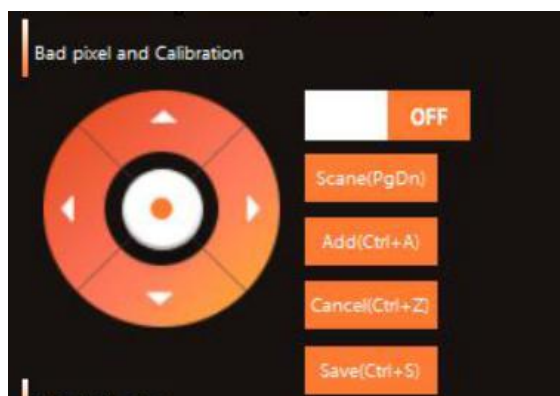

Figure 3.2.1 Blind pixel calibration interface
If new blind pixel appears on the product, we can remove the blind pixel through the function of blind pixel calibration. As is shown in Figure 3.2.1, the process is as following step:
Step2: As shown in Figure 3.2.1, in “blind pixel and calibration ”interface, click “up”、 “down”、 “left”、 “right” button to adjust the center position of reticle to the position of blind pixel, click “add” button to add the center position of reticle to blind pixel table and then view if there is blind pixel in the picture. if the blind pixel still exists, it mean that the center position of reticle isn’t aimed at the blind pixel, click “Cancel” button and move the reticle to replace the blind pixel.
2. During the process of blind pixel calibration, we can use the shortcut key of moving reticle, replacing and saving to improve operational efficiency. The direction key can make the reticle move one pixel one time, “ctrl” + “the direction key” can make the reticle move twenty pixels, the other shortcut key is shown in Figure 3.2.1